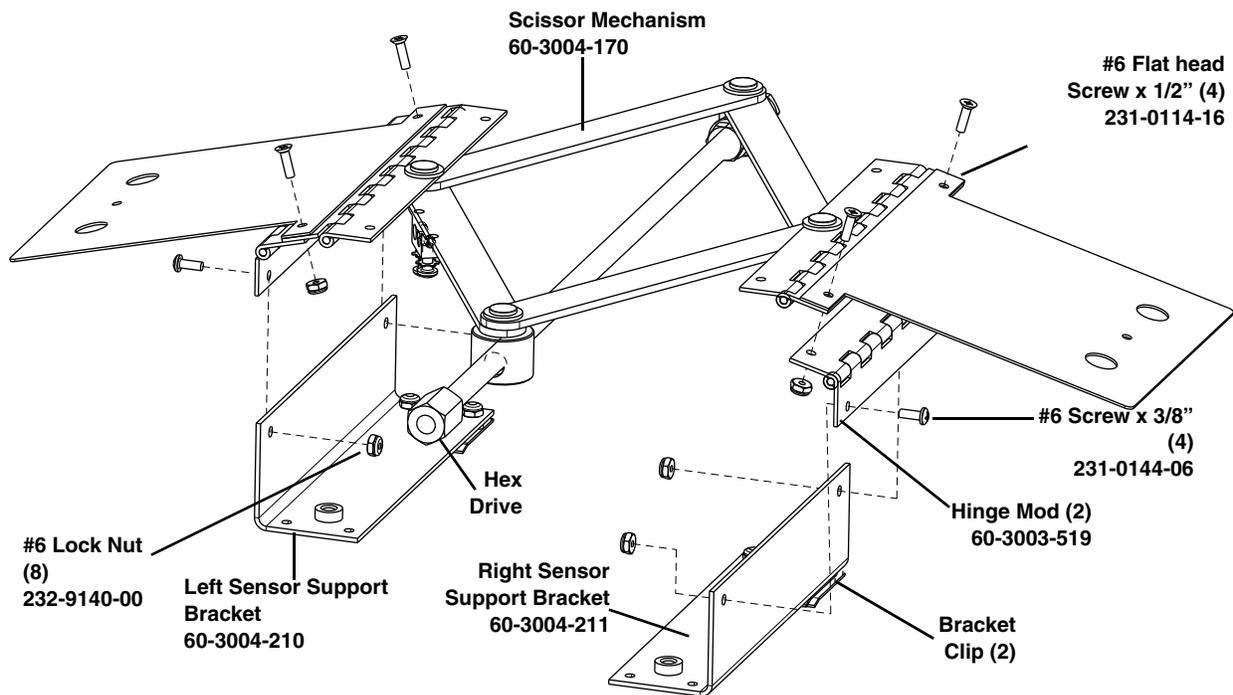

Figure 2-9 Assembling the sensor mount kit
2. Attach the hinge and bracket assemblies to the scissor mechanism with the bracket clips facing opposite the hex drive, as shown in Figure 2-9.